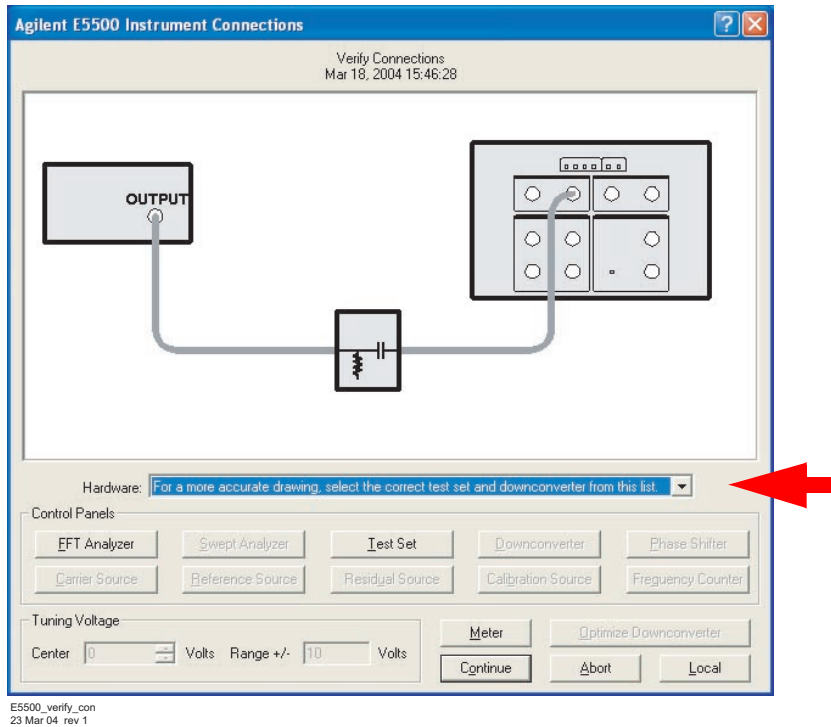

Figure 44 Connection diagram
- 3 When the **Connect Diagram** dialog box appears, click on the hardware pull-down arrow and select your hardware configuration from the list. See Figure 44 on page 72.